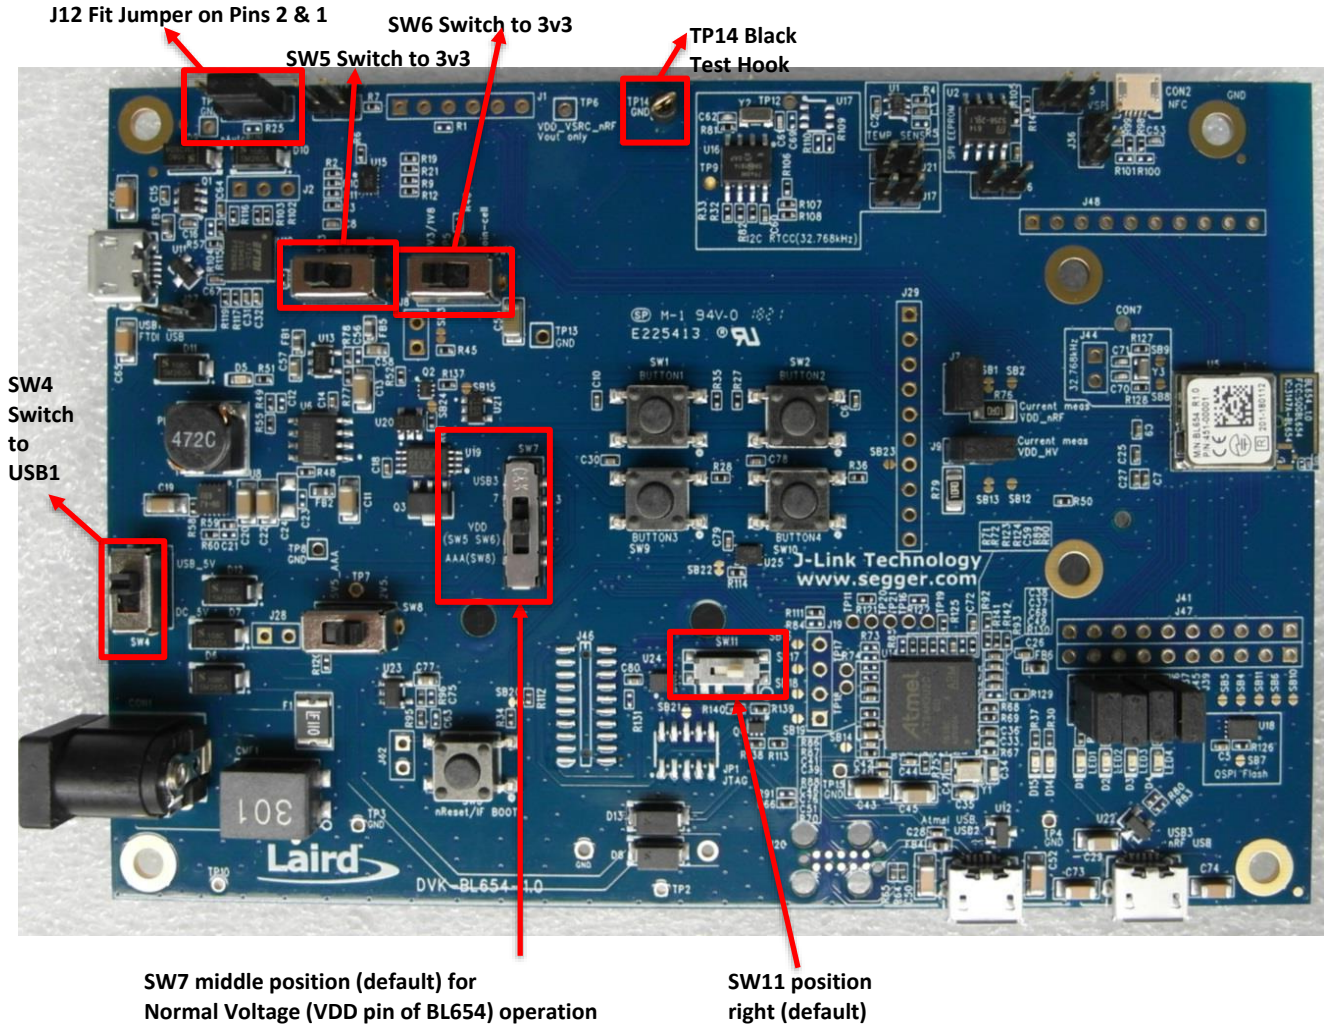

Figure 3: Correct BL654 development board 455-00001 or 455-00002 jumper and switch settings (image for 455-00001)
**Important!** To ensure correct out-of-the-box configuration, the BL654 development board switches and jumpers must be configured as shown in Figure 3.